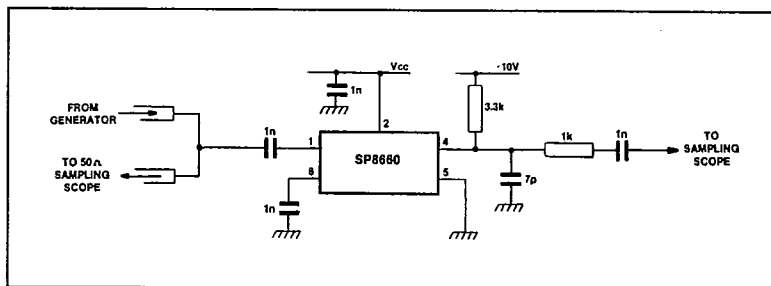

Fig.5 Test circuit
2. The dynamic test circuit is shown in Fig.5.
6. The rise time of the open collector output waveform is directly proportional to the load capacitance and load resistor value. Therefore the load capacitance should be minimised and the load resistor kept to a minimum compatible with system power requirements. In the test configuration of Fig. 5, the output rise time is approximately 20ns and fall time is 10ns typically.